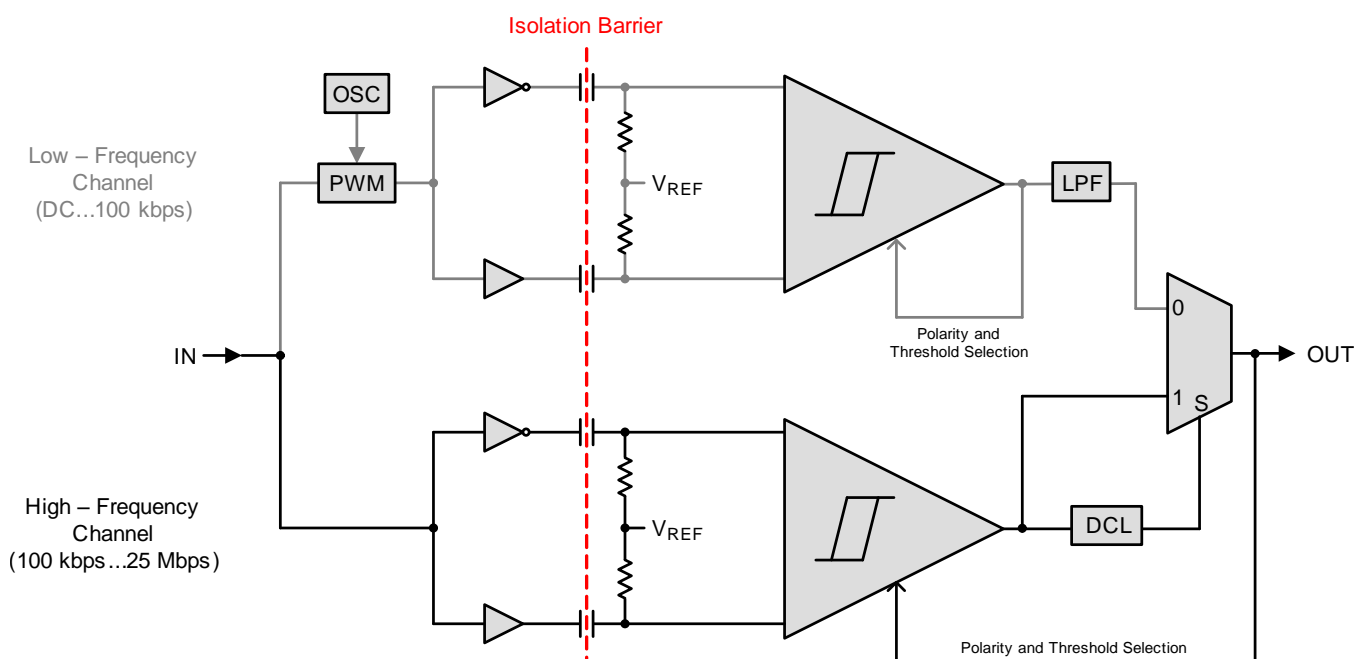

Figure 14. Conceptual Block Diagram of a Digital Capacitive Isolator
The isolator in Figure 14 is based on a capacitive isolation barrier technique. The I/O channel of the device consists of two internal data channels, a high-frequency (HF) channel with a bandwidth from 100 kbps up to 25 Mbps, and a low-frequency (LF) channel covering the range from 100 kbps down to DC.